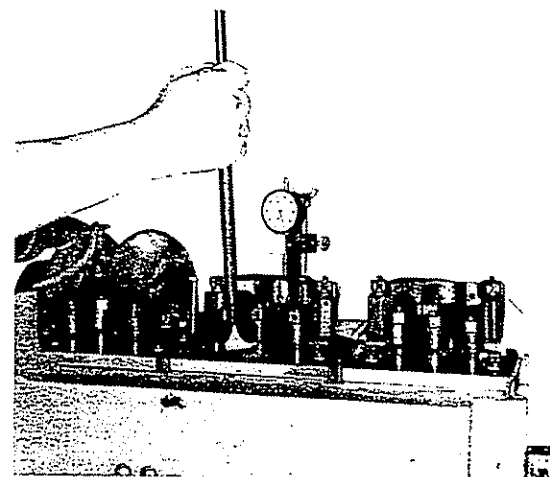

Fig. 2-54, (K114104). Actuating rocker lever
5. Using 3375009 Rocker Lever Actuator Assembly and (3375007) Support Plate, bottom the injector plunger, check the zero (0) setting. Fig. 2-54. Allow the plunger to rise slowly; the indicator must show the plunger travel to be within the range indicated in Table 2-19.